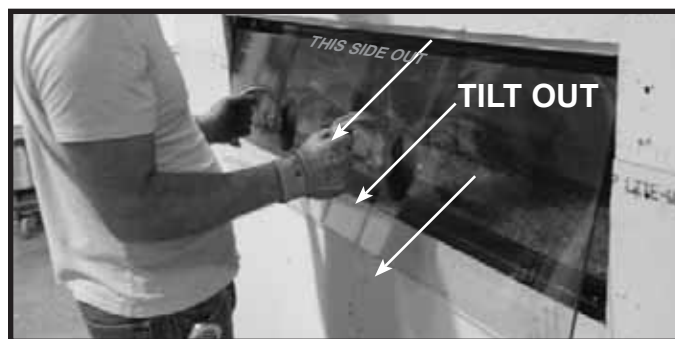

Figure 4.2 Tilt Barrier Glass and Remove
3. Tilt bottom out as shown in Figure 4.2. Slide glass down to remove it from the appliance.
5. Rotate/tilt the bottom of the glass outward to remove. See Figure 4.2.